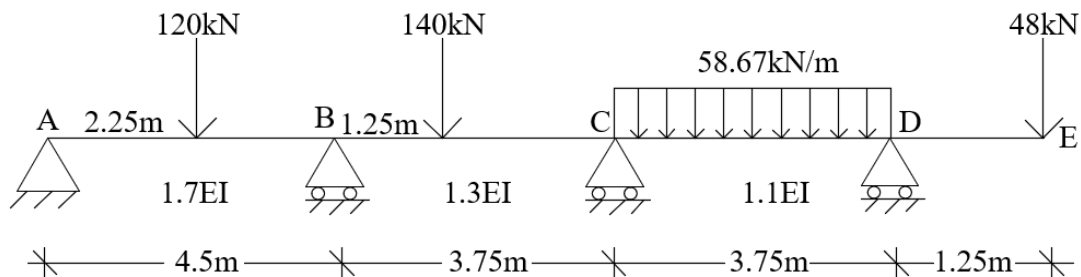

Fig. 1
- 1 Analyse the three-span continuous beam ABCD, with overhang DE, for the loading, end support conditions, spans and flexural rigidity as shown in Fig. 1, by applying the theorem of three moments. Draw the BMD and SFD. (15)
- 4 Analyse the continuous beam shown in Fig. 1 by moment distribution method. Draw BMD and SFD (15)